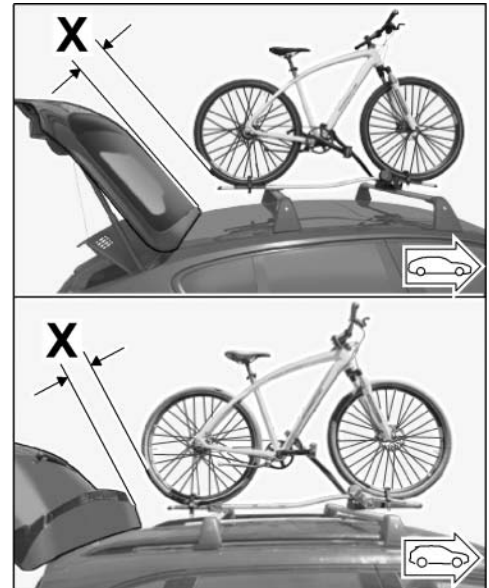

Figure 18
5.3.2 Overhang to the rear (rear window/rear lid or tailgate ⇒ *Figure 18*):